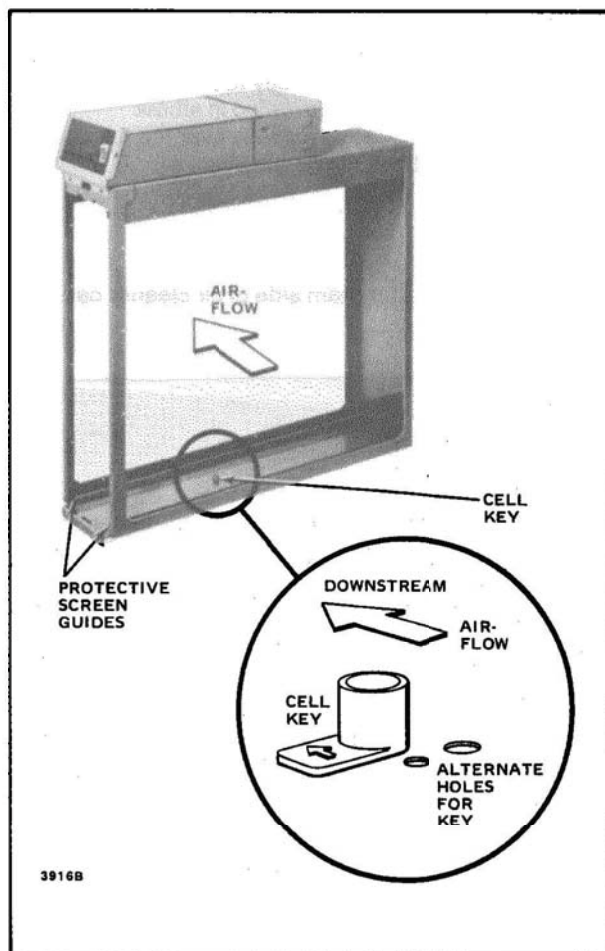

FIG. 20—POSITION OF CELL KEY DETERMINES ORIENTATION OF CELL. INSTALL THE CELL KEY ON THE UPSTREAM SIDE OF THE CABINET.
2. Remove the screw holding the cell key in place (Fig. 20).
downstream (Fig. 20). Protective screens must be on the upstream side of the electronic cells. Cell handles should be on the outside of the cells.